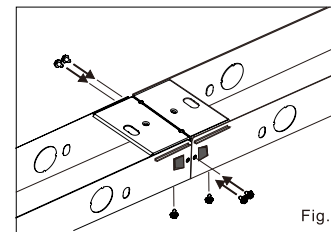

Fig.4
4. Fasten the screws on both 3 sides of fixture channel. (Fig 4)